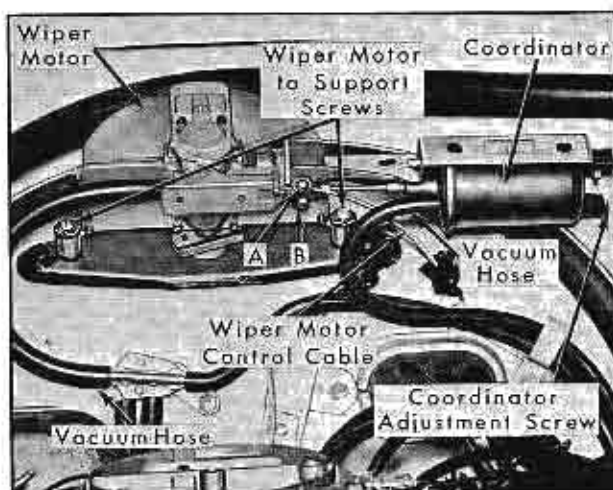

Fig. 3-9 Windshield Wiper Motor Assembly
2. Disconnect wiper motor control cable at wiper motor, Fig. 3-9.
1. Turn adjustment screw, Fig. 3-9, clockwise
2. Remove screws "A" and "B", Fig. 3-9, from wiper motor.